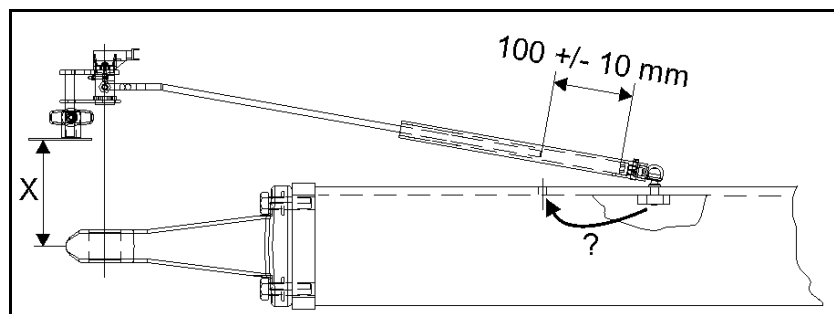

Fig. 99
- Keep the distance between the coupling point and position encoder (Fig. 99/ X) as small as possible (particularly with the hitch drawbar).